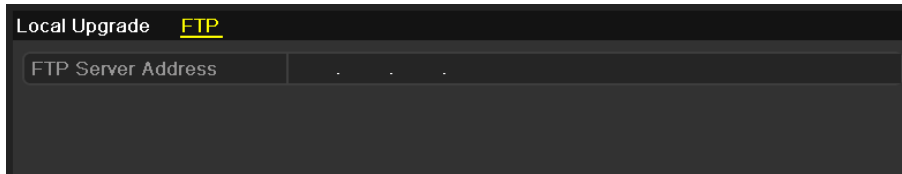

Figure 12-9 FTP Upgrade Interface
2. Click the **FTP** tab to enter the local upgrade interface, as shown in Figure 12-9.